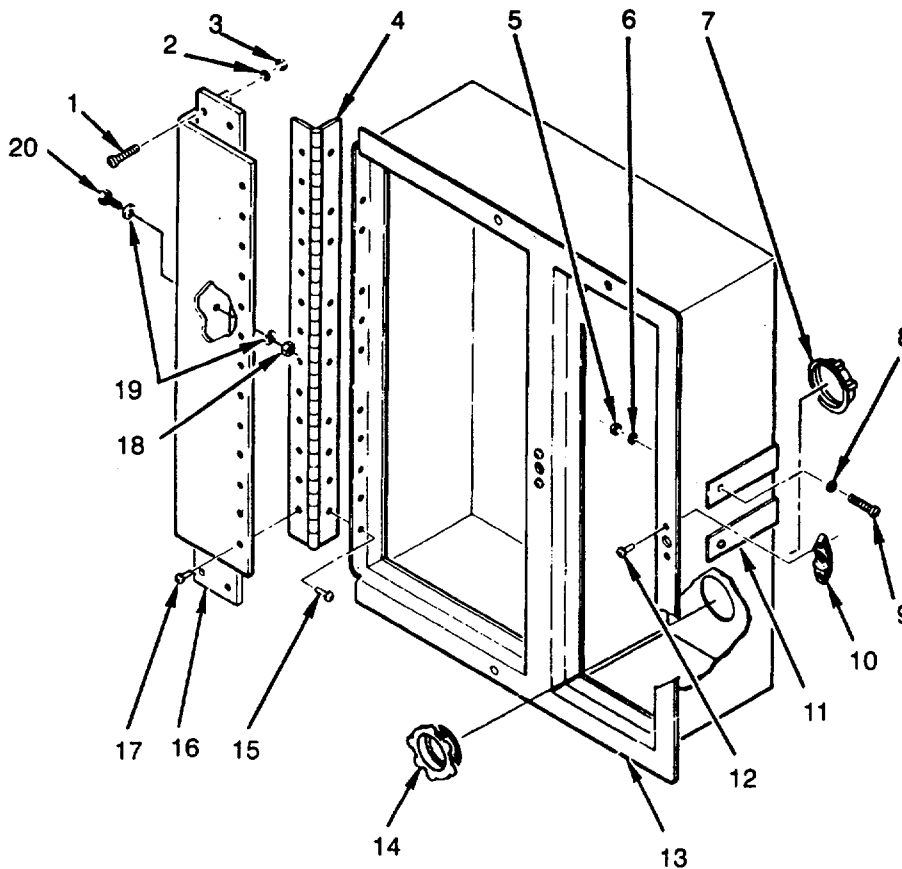

Figure 4-66. Control Box
1. Check control box (13) for dents, cracks, punctures, or missing mounting hardware. Replace if damage creates a hazard or interferes with operation (see Figure 4-66).
2. Check that hinge (4), receptacles (10), bushing (14) and locking ring (7) are in place and secure. Repair or replace as needed.